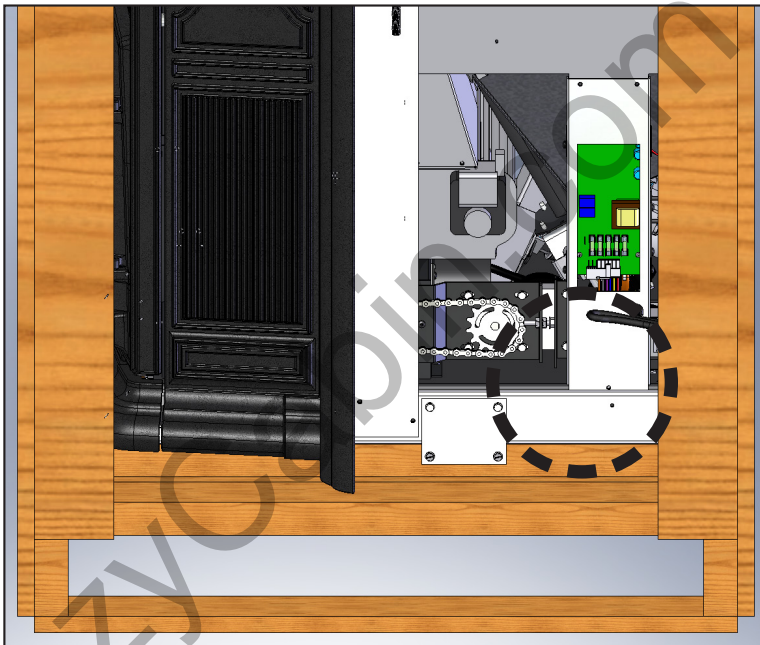

Figure 3: Mounting Plates securing stove to pallet
5. Remove the two top bolts on the pallet mounting plates as shown in Fig. 3.